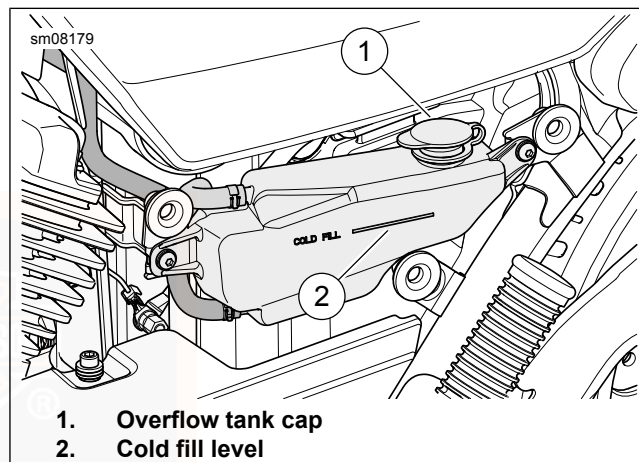

Figure 38. Coolant Overflow Tank
4. See Figure 38. Check that coolant level is at or slightly above the "COLD FILL" line (2).